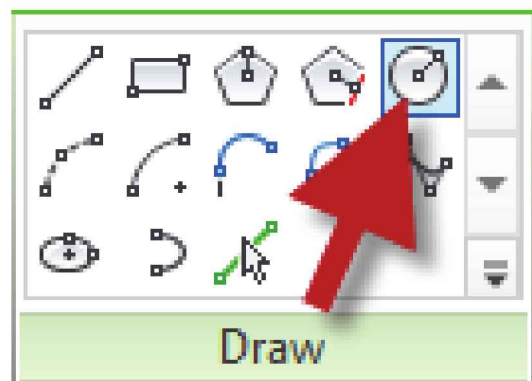

FIGURE 4-2.1 Sketch Options for detail lines
5. Select the **Circle** icon from the *Ribbon* (Figure 4-2.1).
35. Select **Model Line** and then **Center – Ends Arc** from the *Ribbon* (Figure 4-2.1).